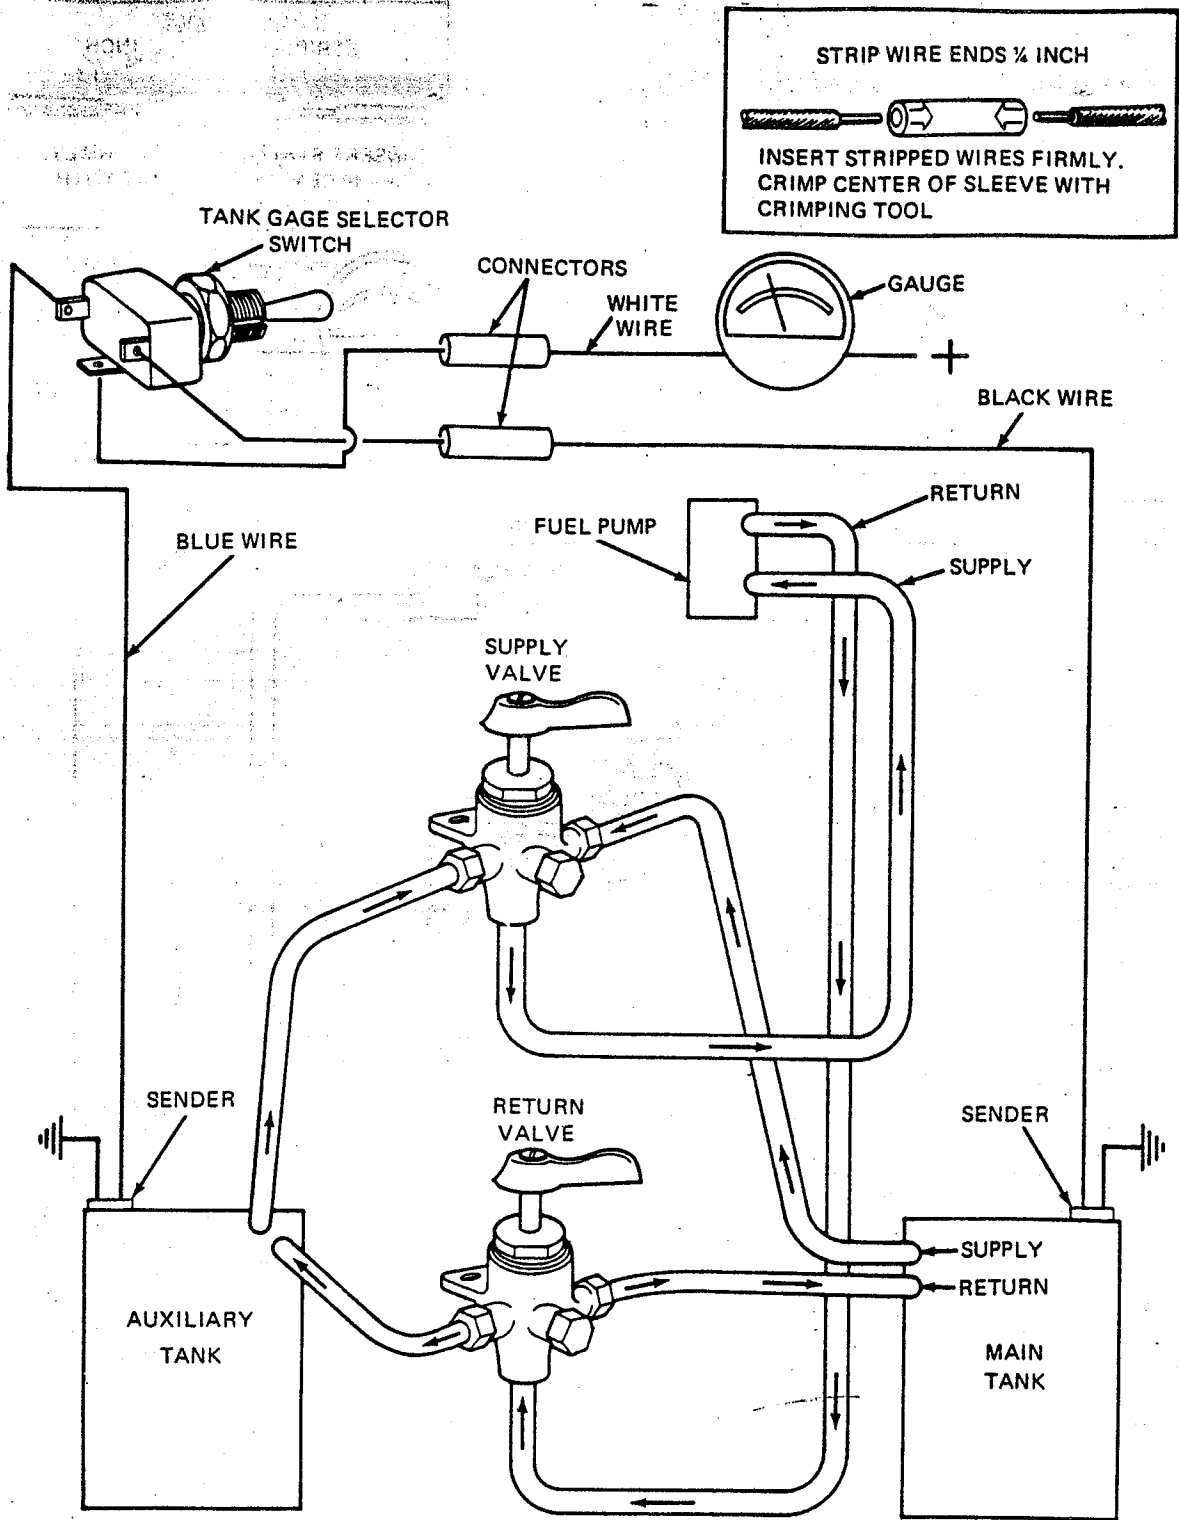

FIGURE 7-6 Typical return system (manual)
14. Electrical solenoid systems — Install tank selector switch in dash and wire to valves using 18 gauge wire. See Figures 7-6 and 7-9.
5. Locate wire leading from main tank to fuel gage. Cut this wire at a location under dash. Connect wires as shown in Figure 7-6. Use number 18 wire.
Refer to Figure 7-6